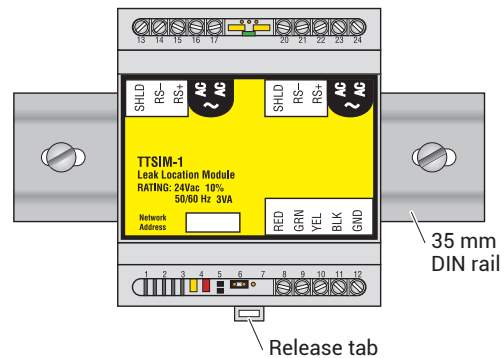

Figure 1. DIN Rail Mount
Mounting the TTSIM-1 module (without NEMA 4x Enclosure – Figure 1)
- **Note:** When properly oriented, there will be two terminal strips on the top of the module and one on the bottom. See Figure 1.